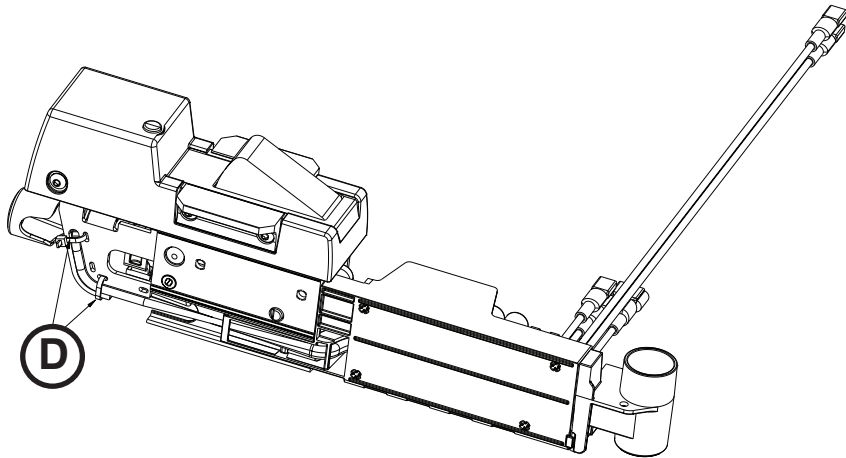

Figure 100
11. Using diagonal pliers, cut the zip ties (D) that secure the coil wires to the wire management strap (Figure 100).